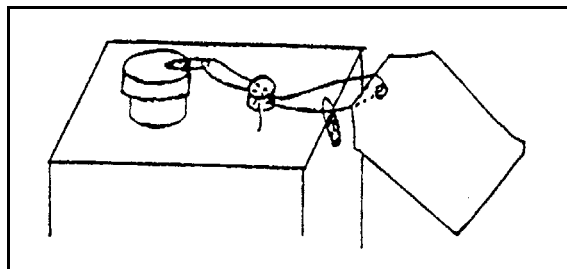

Figure 1. Attachment of Security Seal.
1. Metal cans with security seals - The top opening of the container should be closed tightly with a screw cap. The closure should then be sealed with a security seal should be attached as shown in Figure 1.